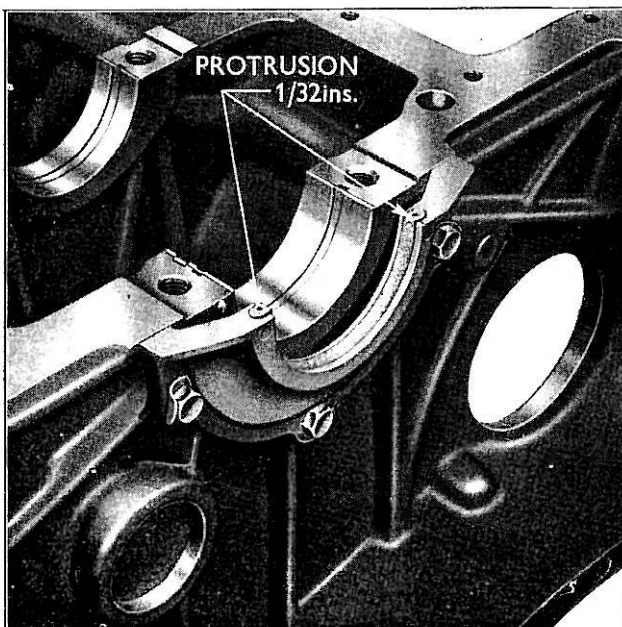

Fig. 55
- 4 Fit a new lower half rear oil seal. This should be previously soaked in engine oil for one hour and when fitted should protrude at its ends $\frac{1}{32}$ in. above the sump face in a similar manner to the upper half seal in the block. (See Fig. 55.)